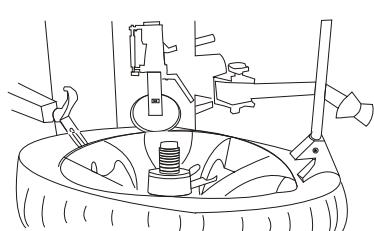

Fig 11
6. Press the tyre by the upper pressing head block and then press the turntable rotating pedal, upper bead mounting complete after turntable rotates one round. (Fig 11)